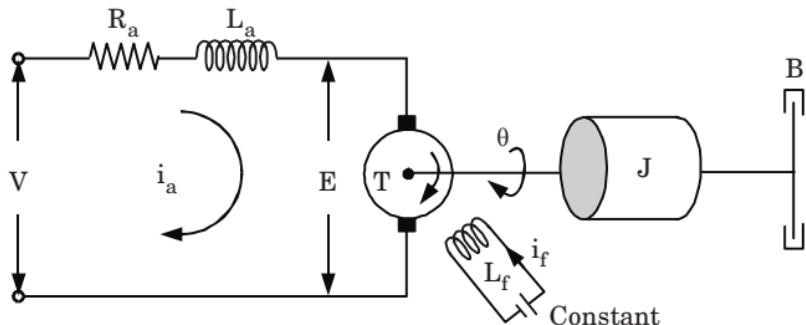

Fig. 1.6.1.
1. Consider the armature controlled DC motor (DC servo motor) and assume that the demagnetizing effect of armature reaction is neglected, field voltage is constant and magnetic circuit is linear. Armature controlled DC servo motor is shown in Fig. 1.6.1.